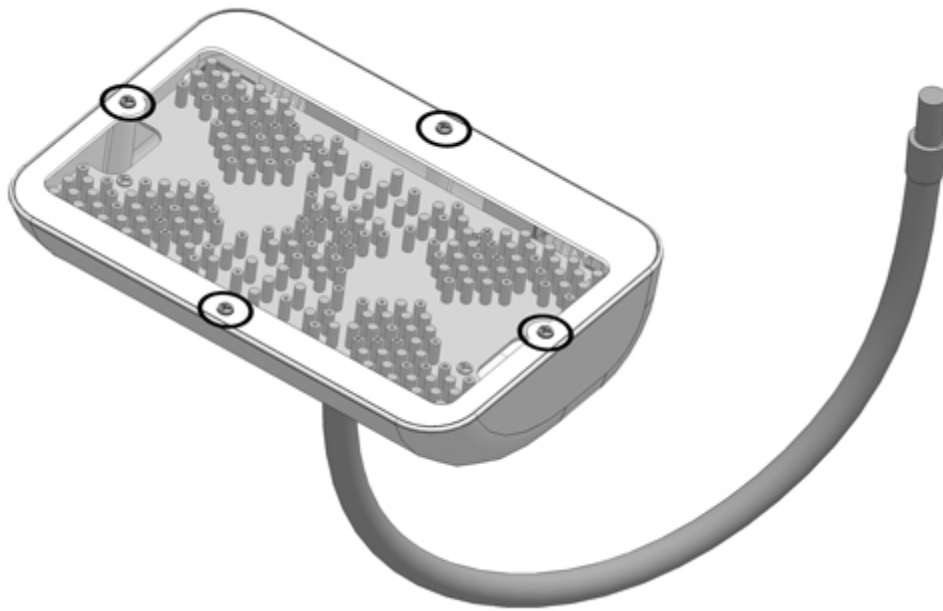

FIGURE 2
3. Remove the four Phillips head screws at the edges of the lens. Locations are circled in figure 2.